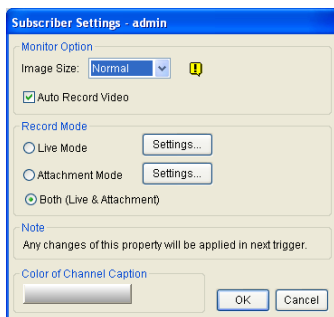

Figure 1-4
In the Subscriber Settings dialog box (Figure 1-4), select **Attachment Mode**, and click the **Settings** button beside. This dialog box appears.
1. On Center V2 window, click the **Accounts** button (No.7, Figure 1-1), highlight a subscriber, and click the **Subscriber Setting** button on the toolbar. The Subscriber Settings dialog box (Figure 1-4) appears.